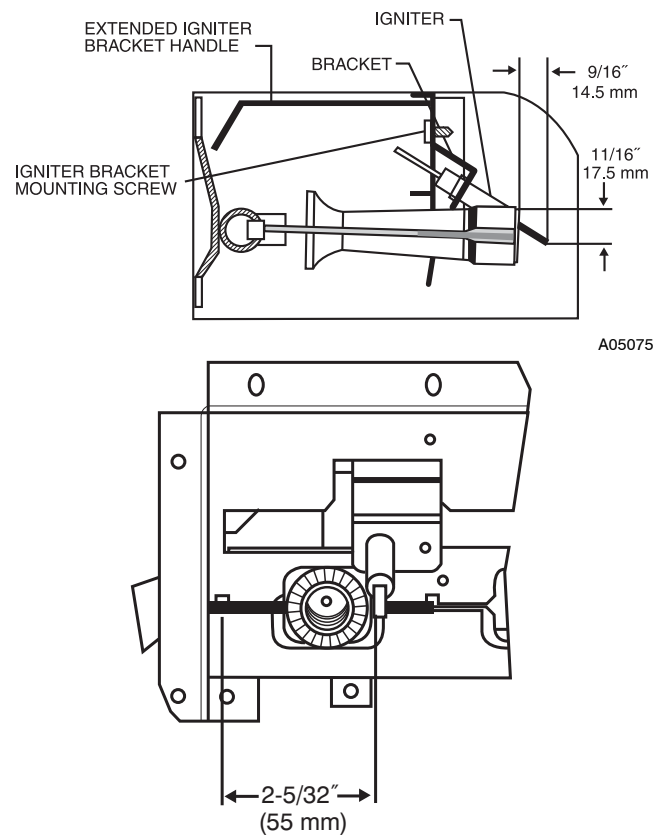

Fig. 4 - Position of Igniter to Burner
13. Reinstall manifold, orifice, and gas valve assembly in burner box. Ensure manifold seal grommet is installed properly and burners fit over orifices. (See Fig. 4 for igniter position.)
- s. Reinstall manifold, orifices, and gas valve assembly in burner box. Ensure manifold grommet seal is installed properly and burners fit over orifices. (See Fig. 4.)